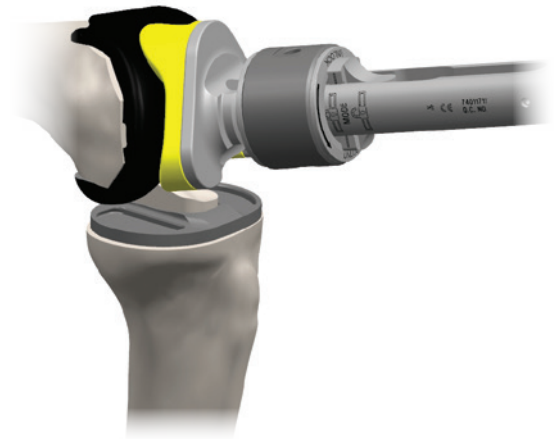

Figure 53
- 4 Impact the Femoral Implant Impactor until the distal surface is completely flush with the distal resection (Figure 53).